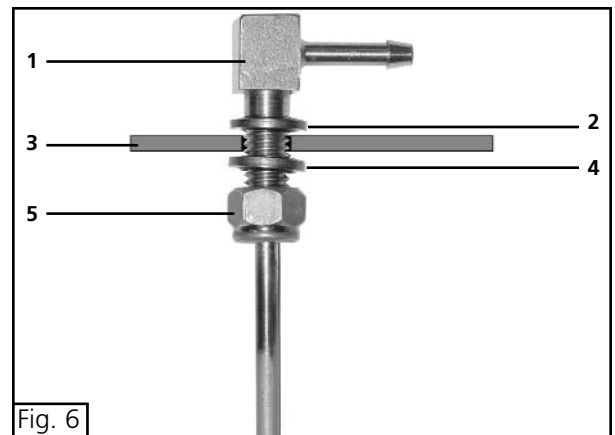

Fig. 6
Legend for Figure 6
- Assemble standpipe, sealing washers and locking nut with sender unit as shown in Figure 6.